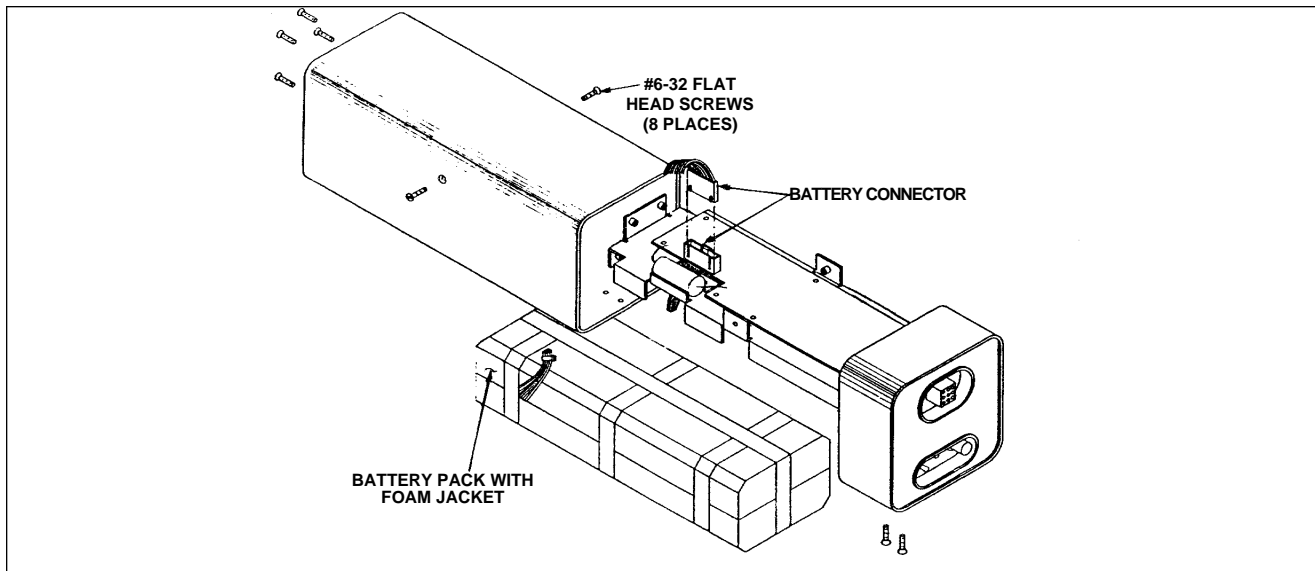

Figure 12-9. ELT 910 Battery Pack
- f. Remove 8 flat head screws from unit. (Refer to Figure 12-9.)
- h. Unsnap battery connector (connector toward back end of circuit board). (Refer to Figure 12-9.)